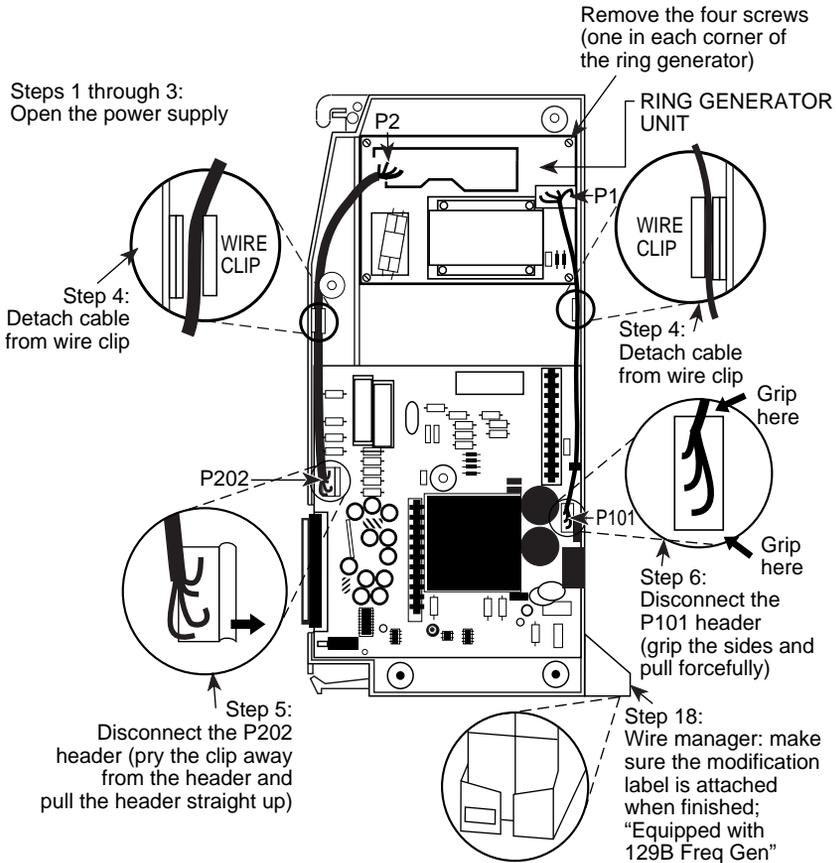

Figure 4-2. Replacing a Ring Generator
- ▶ 7. Remove the four screws from the ring generator, as shown in Figure 4-2.
- ▶ 9. Position the replacement ring generator, as shown in Figure 4-2. Align the screw holes.
- ▶ 18. Verify that the modification label (Equipped with 129B Freq Gen) is attached to the front of the power supply (shown in Figure 4-2).